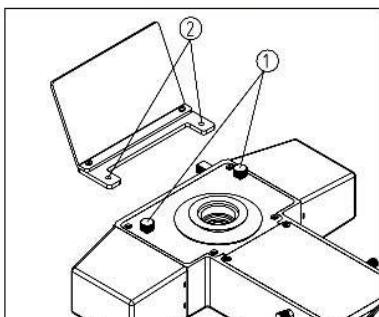

Fig. 3
### The UV Protection Shield (Fig. 3)
Remove the lock screws ① located on the bottom of the fluorescence illuminator (Fig. 3). Match up the holes ② on the UV protection shield to the lock screw holes then install and tighten the screws.